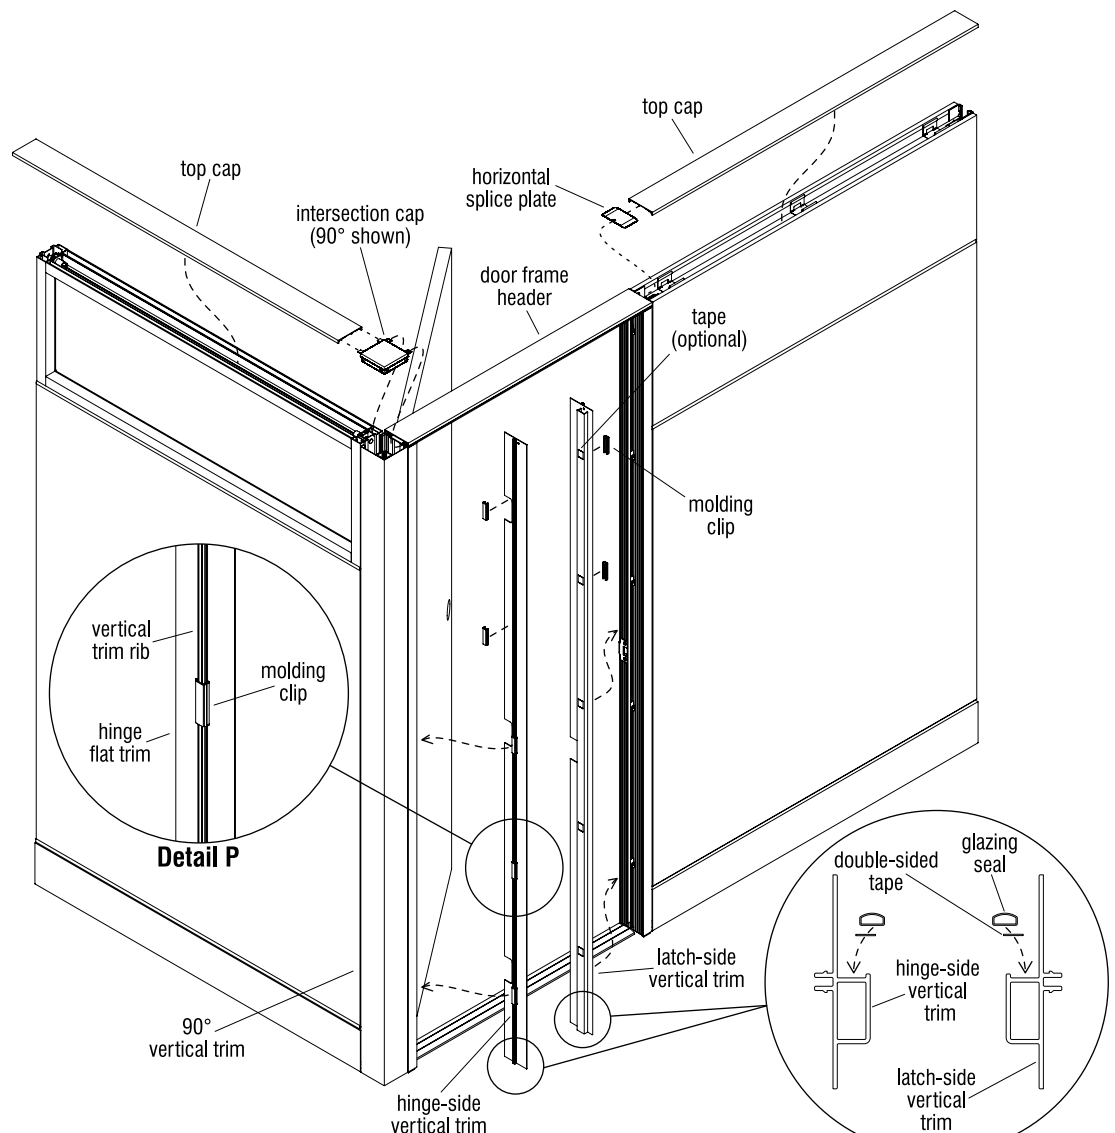

Figure 8
18. Locate and identify both the hinge-side, and the latch-side vertical trim (Figure 8). Position molding clips evenly and press them onto the vertical trim rib of both vertical trim pieces as illustrated (Figure 8 & Detail P).
19. One at a time, position vertical trim up to the appropriate side at the interior of the door frame. Take care to space hinge and door latch openings of trim evenly around installed hinges and latch plate. Using a soft rubber mallet, firmly tap trim to snap into place. Trim should sit flush at all edges when installed properly (Figure 8).
20. The previously removed top caps, horizontal splice plates, intersection caps and 90° vertical trim may now be re-installed (Figure 8).
well as the two vertical trim glazing slots at the side of the door frame. Cut to fit at the ends (Figure 8 & Detail Q).
backer off the installed double-sided tape and install the glazing seal to the horizontal header first. The glazing seal for vertical trim on each side must be cut to 79" and installed in the same way. Take care to make sure no gaps are left and that the seal is seated firmly into the glazing slot and secured to the double-sided tape (Figure 8 & Details Q & R).